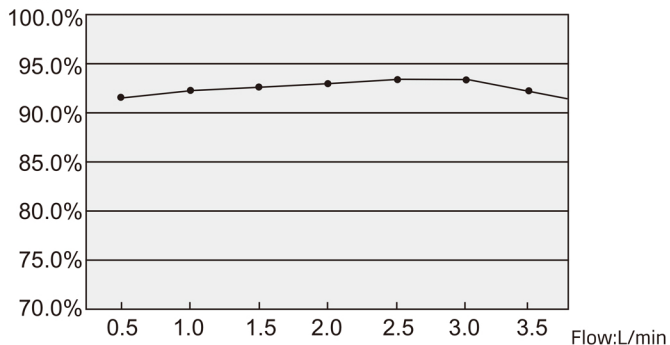

Figure 1
6. Graph showing values of oxygen concentration as a function of flowrate at a nominal outlet pressure of zero (Figure 1):